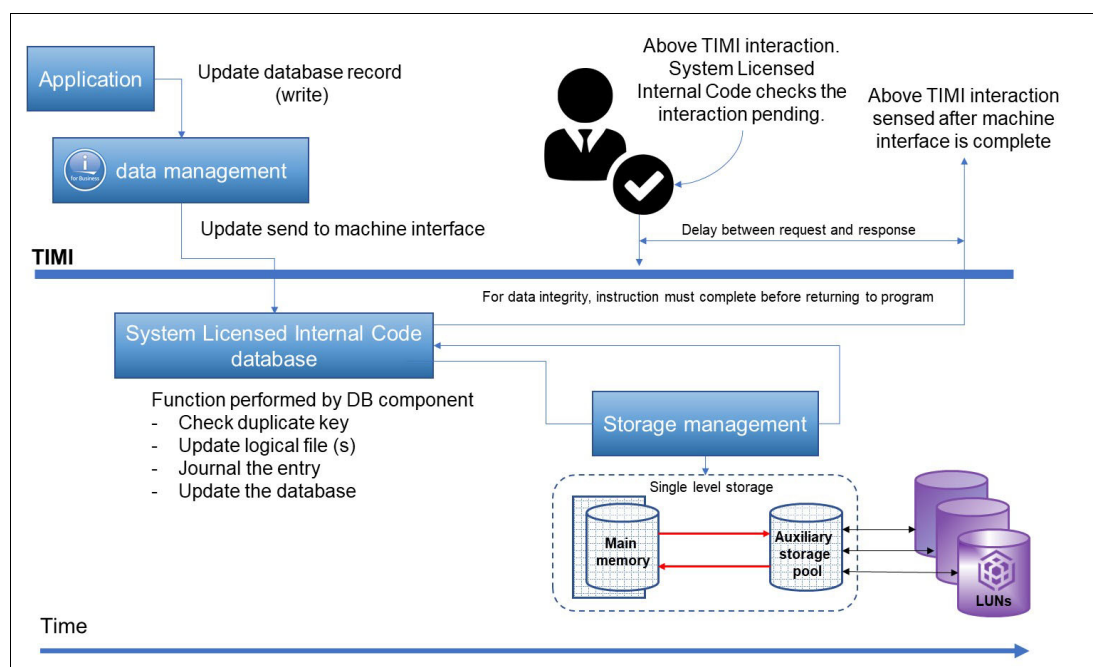

Figure A-4 TIMI atomicity
Other storage-related factors include the IBM i storage pool configuration for the application, how frequently the application closes files, and whether it uses journaling. An example is shown in Figure A-4.
**Note:** In Figure A-4, the ASP is conformed by assigned LUNs from IBM Spectrum Virtualize to the IBM i system. It shows an application request and update to a database record. Throughout the time that the TIMI task is in progress, an interaction above TIMI can occur. This interaction does not continue until the TIMI task concludes.